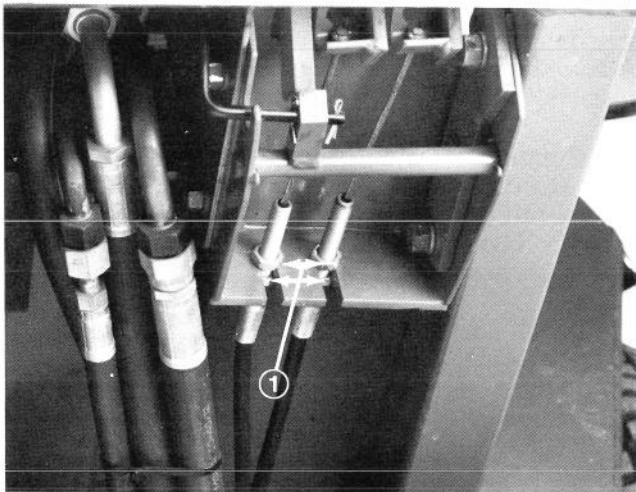

Figure 48
1. To reduce free travel of turn pedals — tighten the brakes — loosen front nut on threaded end of brake cable (Fig. 48). Then tighten rear nut to move cable backward until turn pedals have 1/2 to 1 inch (13 to 25 mm) of free travel. Tighten front nut after brakes are adjusted correctly.